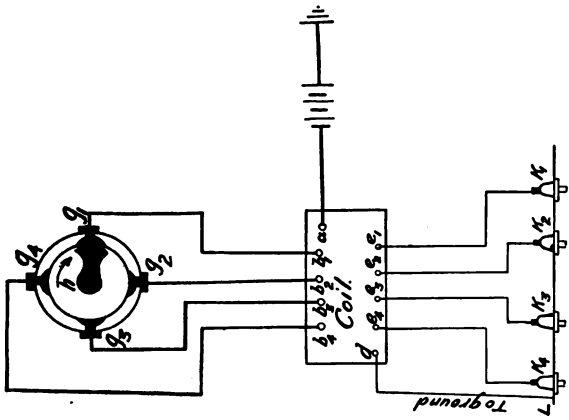

FIG. 33.—Wiring for Four Cylinder Jump Spark Ignition.
**Multicylinder Ignition, Fig. 33,** illustrates four-cylinder engine wiring.
FIG. 33 a.—Wiring of Coil.
**The Timer.** Means must be employed with a multicylinder engine to ignite each cylinder in turn at precisely the proper instant. This is accomplished by the timer. It is interposed in the primary circuit with a terminal for each primary wire from the coil, Fig. 33. There are two general types of timers, the wipe contact and the La Costa or roller contact type.